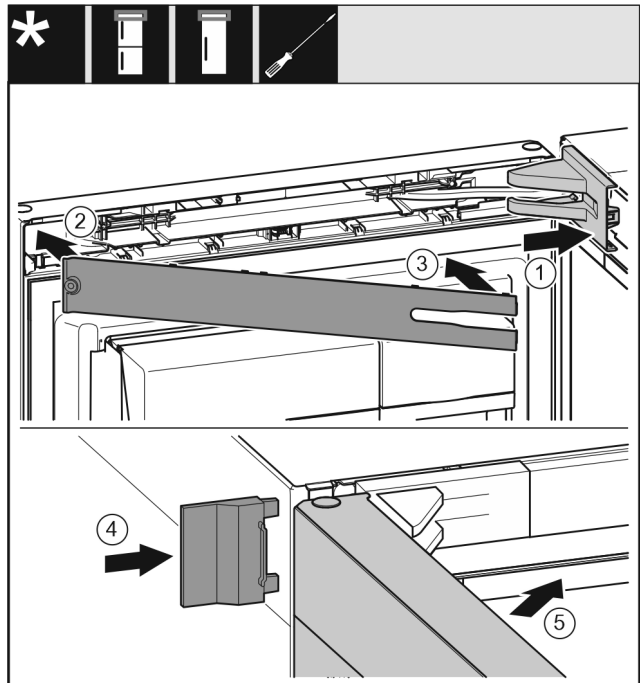

Fig. 24
- ▶ Put the swap bearing block cover Fig. 24 (1) on and engage, push apart carefully if required.
- ▶ Fit the trim Fig. 24 (2).
- ▶ Swivel in the cover Fig. 24 (3) and engage.
- ▶ Push the outer cover Fig. 24 (4) on.
- ▶ Close the upper door Fig. 24 (5).